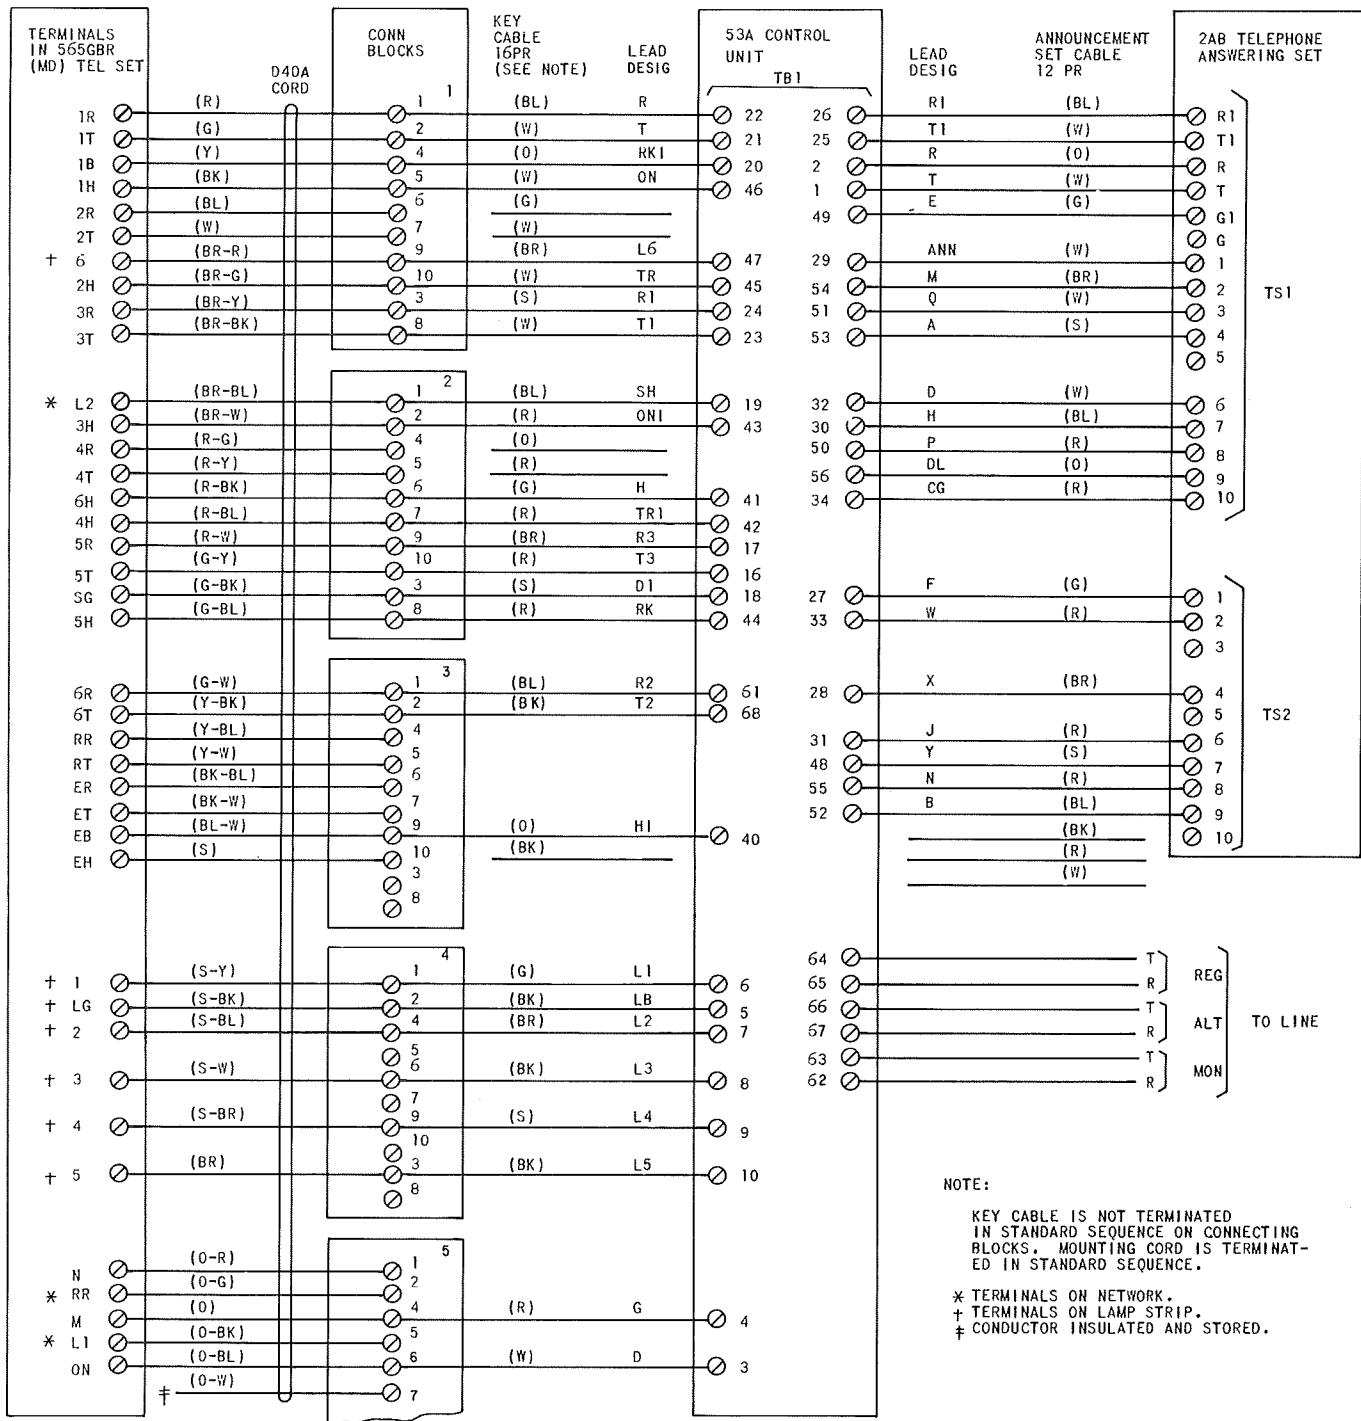
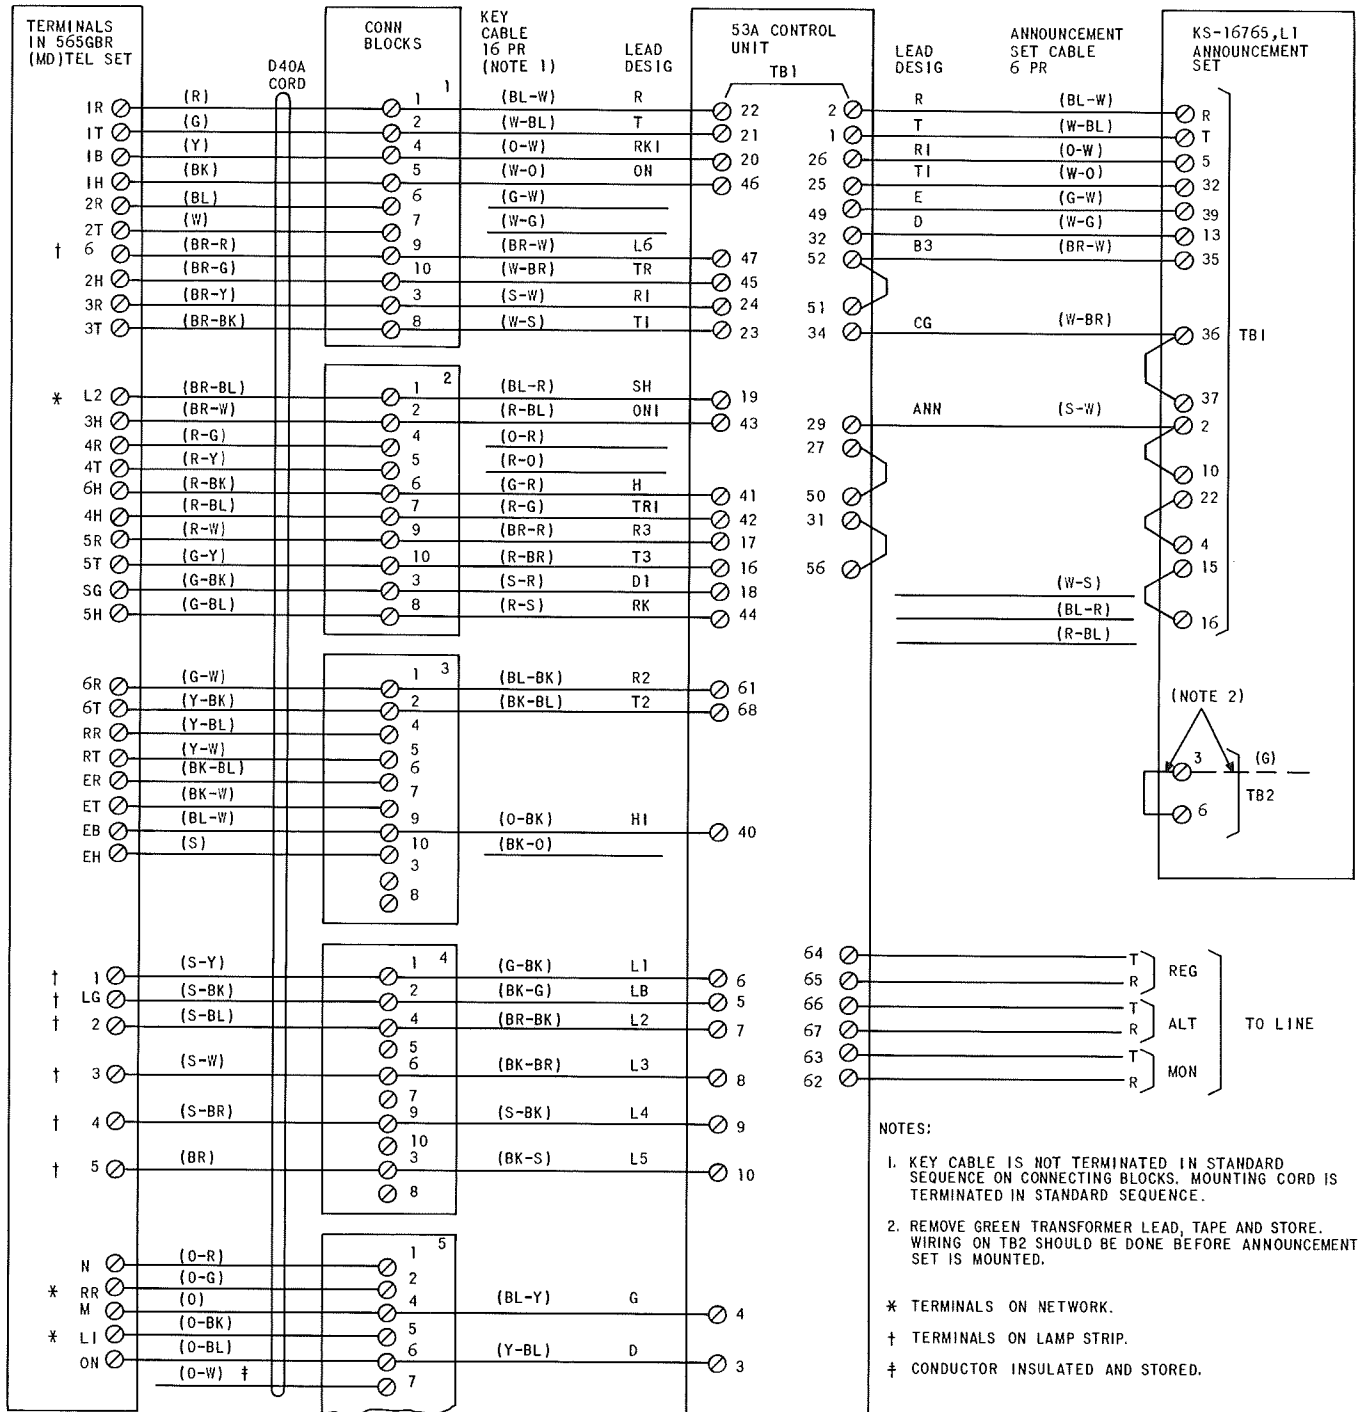
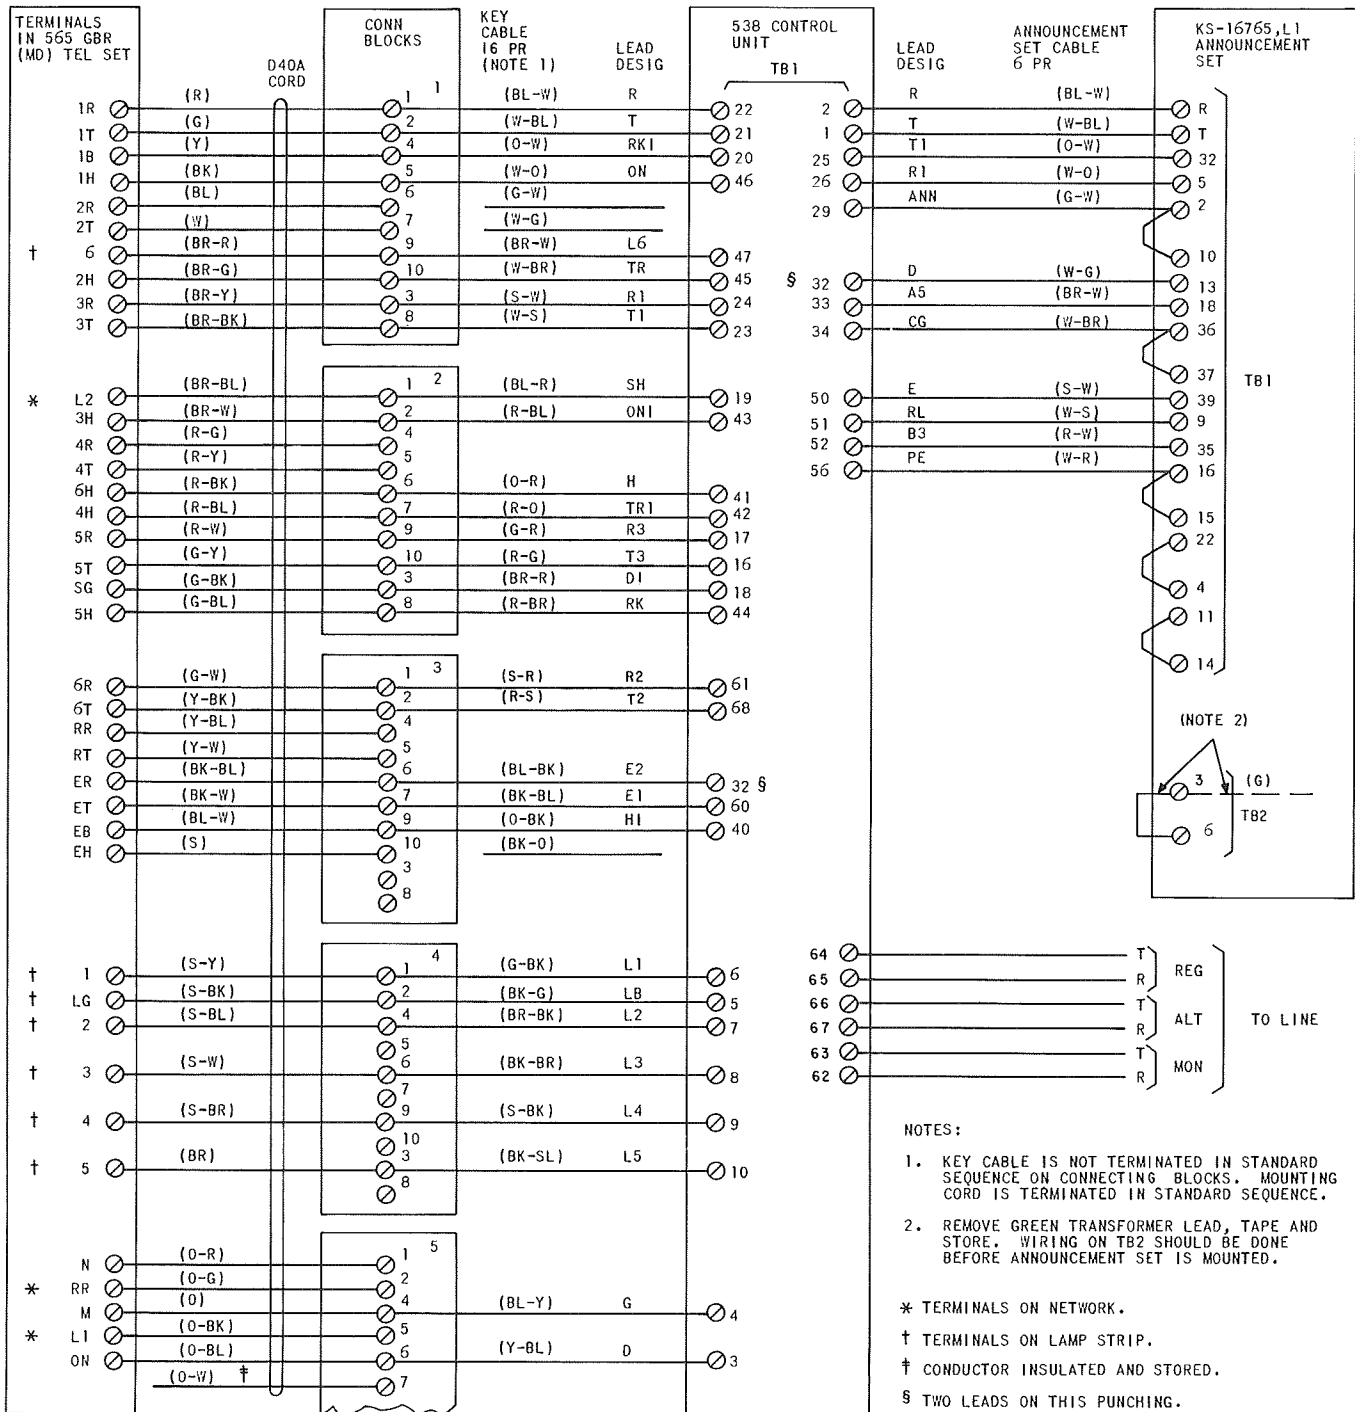

Fig. 3—Connection Diagram 565GBR (MD) Telephone Set, 53A Control Unit and 2AB Telephone Answering Set
Fig. 4—Connection Diagram 565GBR (MD) Telephone Set, 53A Control Unit and KS-16765, List 1 Announcement Set
Fig. 5—Connection Diagram 565GBR (MD) Telephone Set, 53B Control Unit and KS-16765 List 1 Announcement Set
**USING 565GBR (MD) TELEPHONE SET**
**3.03** A 53A control unit used with a 2AB telephone answering set is connected as shown in Fig. 3. A 53A control unit used with a KS-16765, List 1 announcement set is connected as shown in Fig. 4. A 53B control unit used with a KS-16765, List 1 announcement set is connected as shown in Fig. 5.